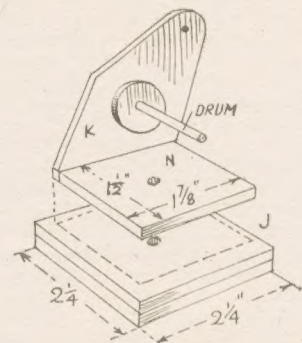

Fig. 6—Detail of drum holder
The platform or base, to carry the turntable, is made of two pieces of 3/16 in. wood glued together, their sizes being as shown in the diagram, Fig. 6. A hole must be made centrally through these pieces to take either a short length of round rod to form the pivot for the turntable, or a long round-head screw for the same purpose. If a screw is used then the head should rest upon a thin metal washer on the top of piece (N).
In Fig. 6 the nearside (K) has been omitted on purpose to show the drum parts, etc.